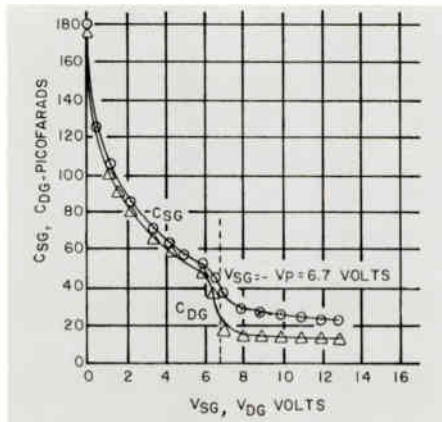

Figure 7. Variation of Source-to-Gate and Drain-to-Gate capacitance with voltage.
2. The FET has input capacitance that varies inversely with V_{SG} (bias). See Figure 7.